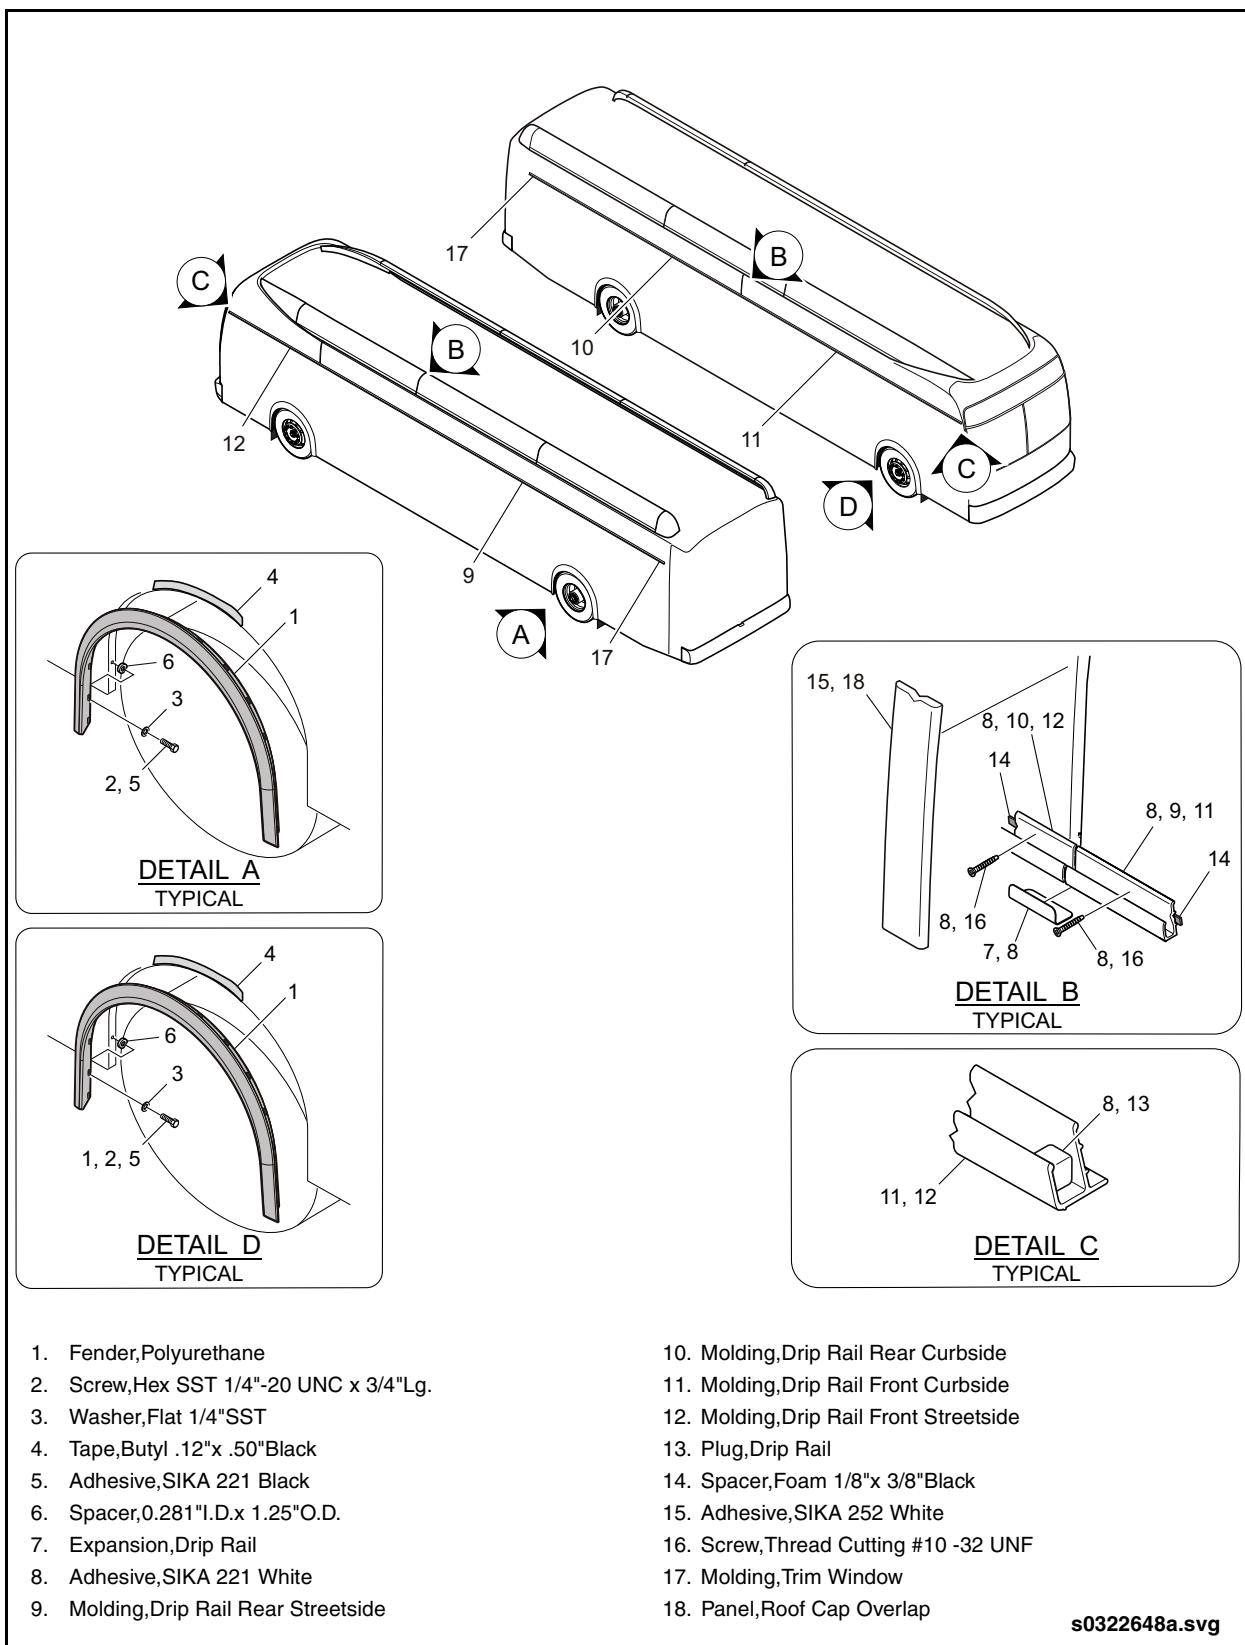

Fig. 13-1: Molding &amp; Trim
*Application of sealants and caulking is critical to prevent corrosion of vehicles in service. Care is to be taken that all the areas around wheel housing are adequately sealed as these areas are subject to high salt spray concentrations. See "Fig. 13-1: Molding & Trim" on page 5.*